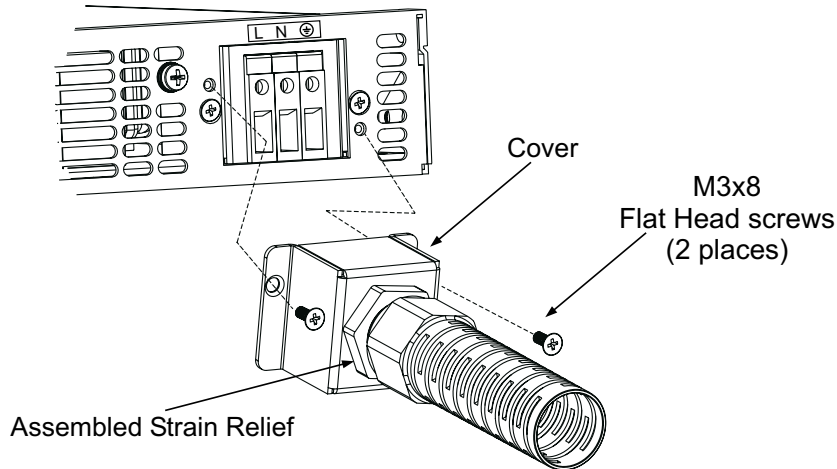

Fig.3-3: AC input cover and strain relief, 1500W models
5. Route the wires inside the cover to prevent pinching. Fasten the cover to the unit using the M3x8 Flat Head screws are provided. Refer to Fig.3-3 for details.